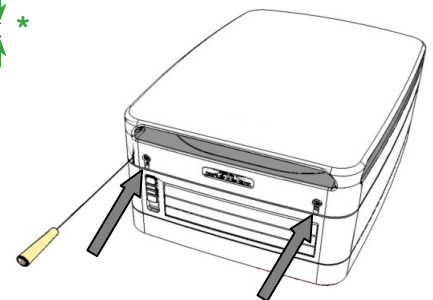
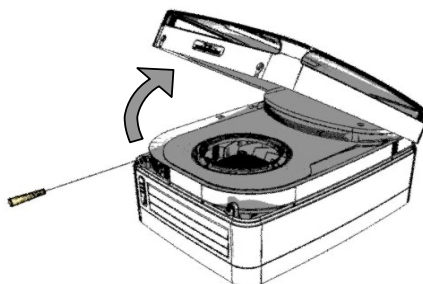

Figure 2.
Figure 3.
3. Undo 2 fixing screws and lift off Cover Plate - Figure 2 & Figure 3.